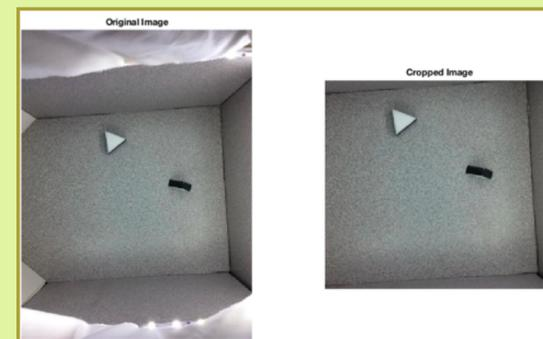

Figure 5: Cropping the image
1. Crop the image (see Fig.5).